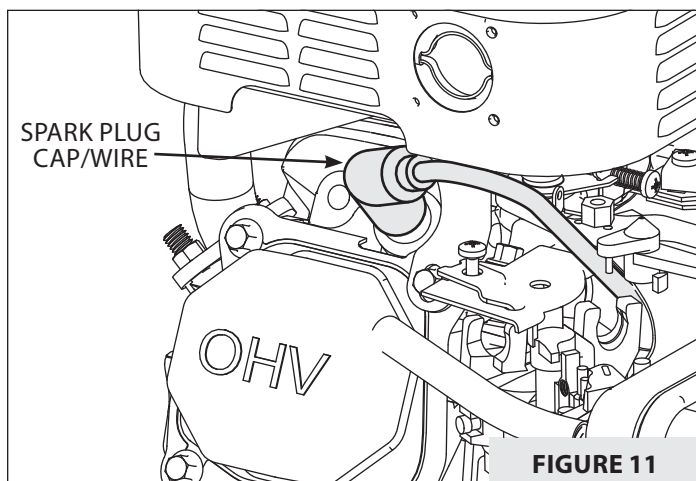

FIGURE 11
1. Detach spark plug cap/wire and move away from spark plug. **SEE FIGURE 11.**
2. Disconnect the spark plug cap, and clean any debris from around the spark plug area. **SEE FIGURE 11.**